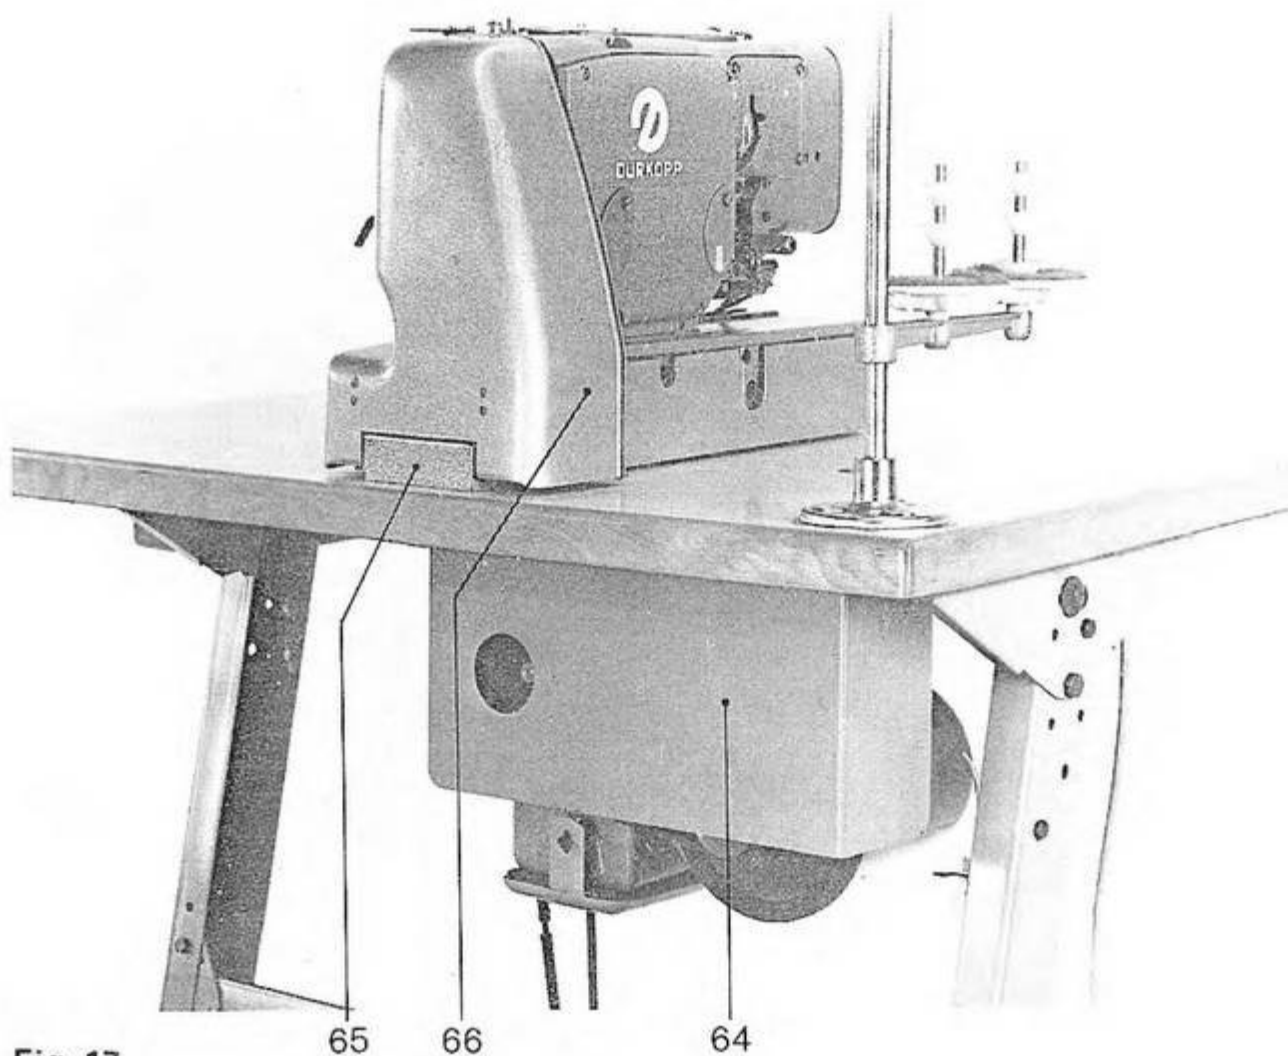

Fig. 17
37. Fasten the belt guard sheet 64 (fig. 17) under the table top, according to the type of installation, as shown in fig. 17.
38. Fasten the support 65 (fig. 17) of the cover 66 by two wood screws on the table top so that said cover can well adapt itself to the machine head.